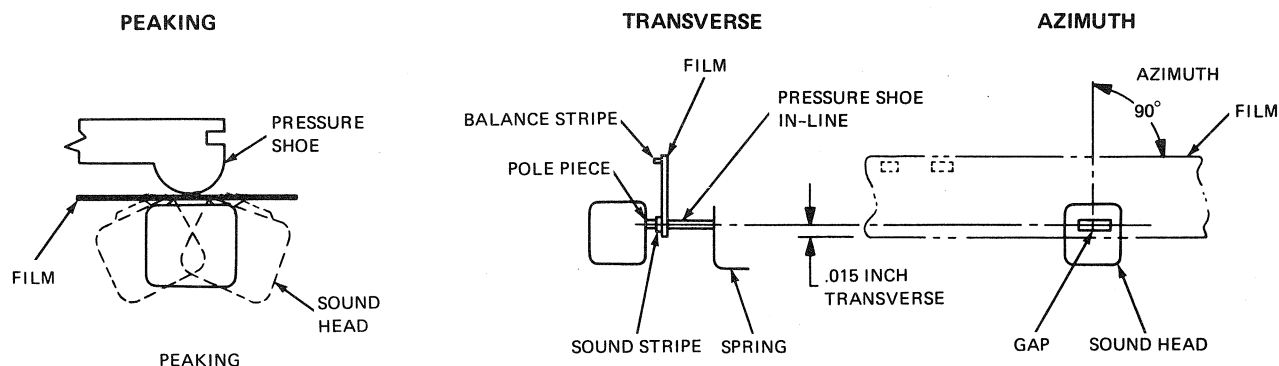

Figure 5-3. Sound Head Alignment
4. Insert cartridge with clear striped film, no sound. Turn unit on. Use mirror to align shoe to film stripe. (See figure 5-3).
6. Check head track location (transverse) with buzz track signal cartridge. Align as necessary up down (transverse) tighten head locking nut and recheck signal. Head gap must have perpendicular azimuth position (visually) before locking nut. (see figure 5-3).
Spring pressure measured at the slot in the pressure shoe (directly backward) should be 40 ± 5 grams. Adjust force by bending spring item 81, figure 4, sheet 1 if necessary. Align sound head pressure shoe (figure 4, sheet 1, item 79) by gently bending (up or down) to line up with the pole piece on the sound head. See figure 5-3 and 5-4.